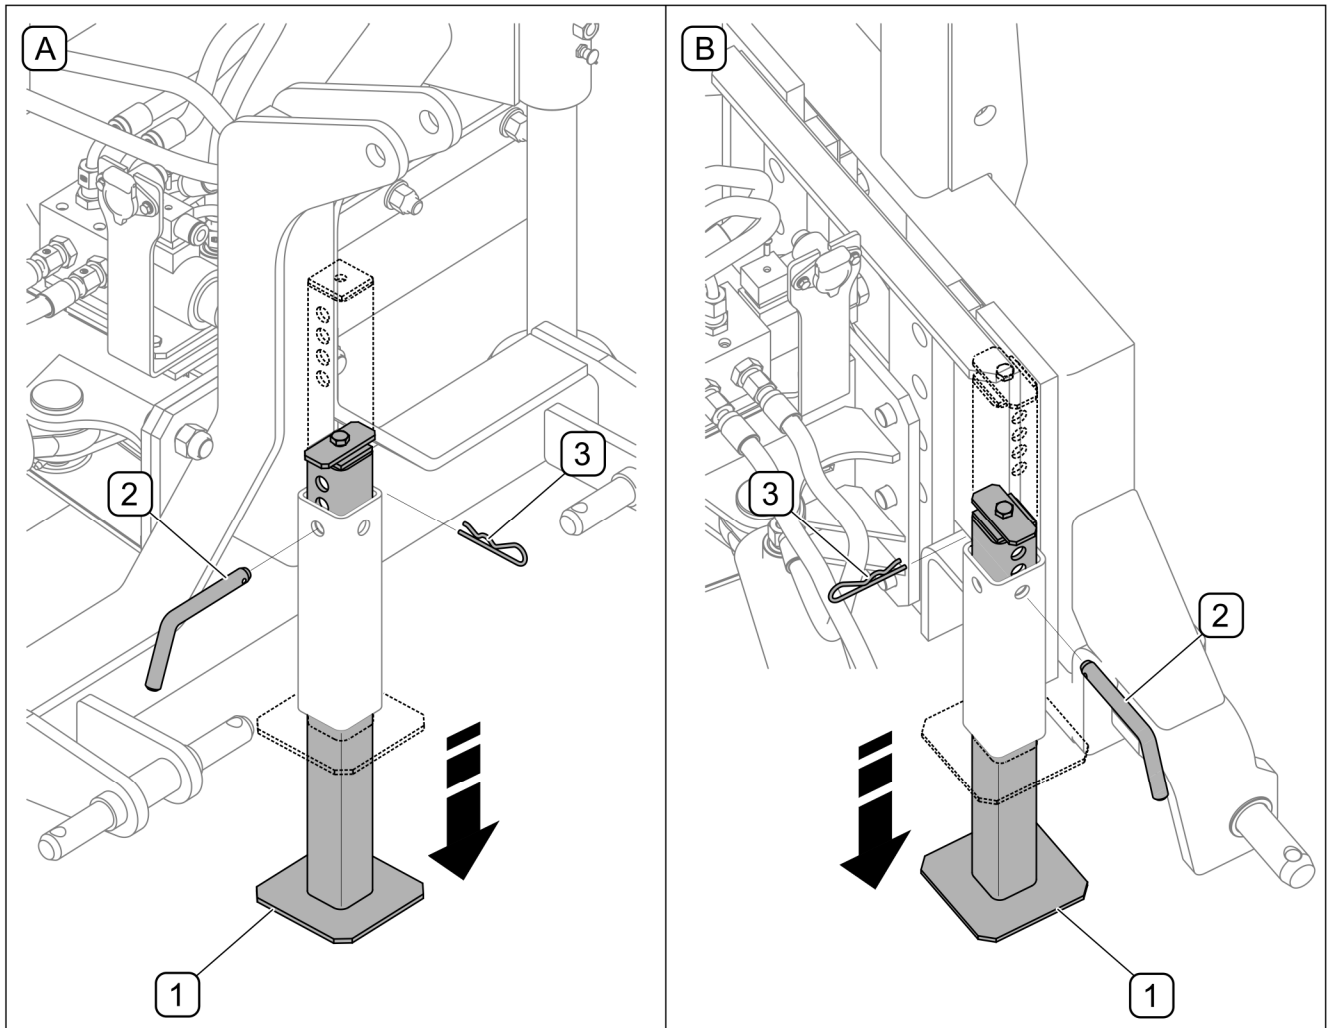

FIGURE 4.10 Lowering of parking stand
- when the snow plough – blade is raised, take out securing cotter pin (3) and linchpin (2) (FIGURE 4.10),
- lower parking stand (1) and secure it with linchpin (2) and cotter pin (3),